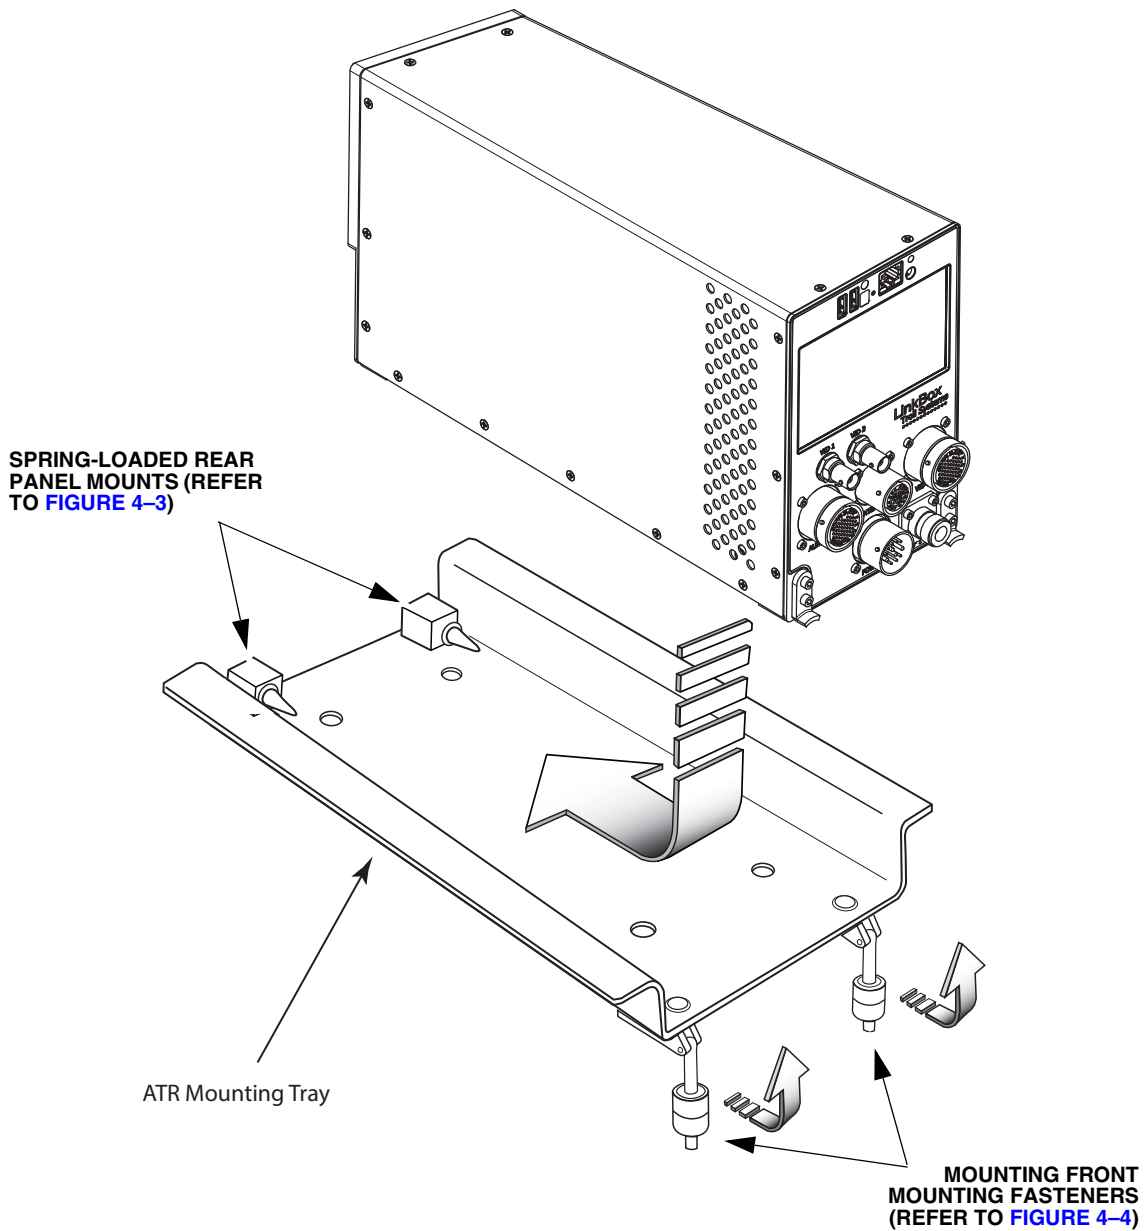
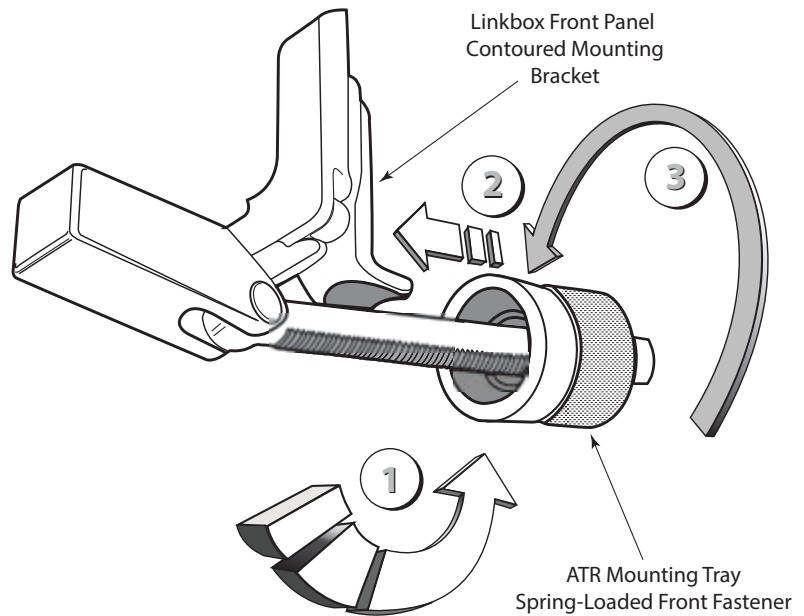

Figure 4-2. Linkbox Mounting Procedure
Figure 4-4. Linkbox Front Panel Mounting Configuration
The Linkbox is mounted onto an ATR Mounting Tray using the two spring-loaded mounting fasteners on the rear and two locking adjustable fasteners on the front panel all of which are part of the plate's configuration (refer to Figure 4-2).
Slide the linkbox backward as far as the rear, mounting fixtures will allow. Once the linkbox is secured by the rear fixtures of the mounting tray, the front mounting fasteners are used to secure the linkbox mount (refer to Figure 4-2 and Figure 4-4).
1. Swing each free-hanging, spring-loaded front fastener (located on the mounting plate) up completely (refer to Figure 4-2).